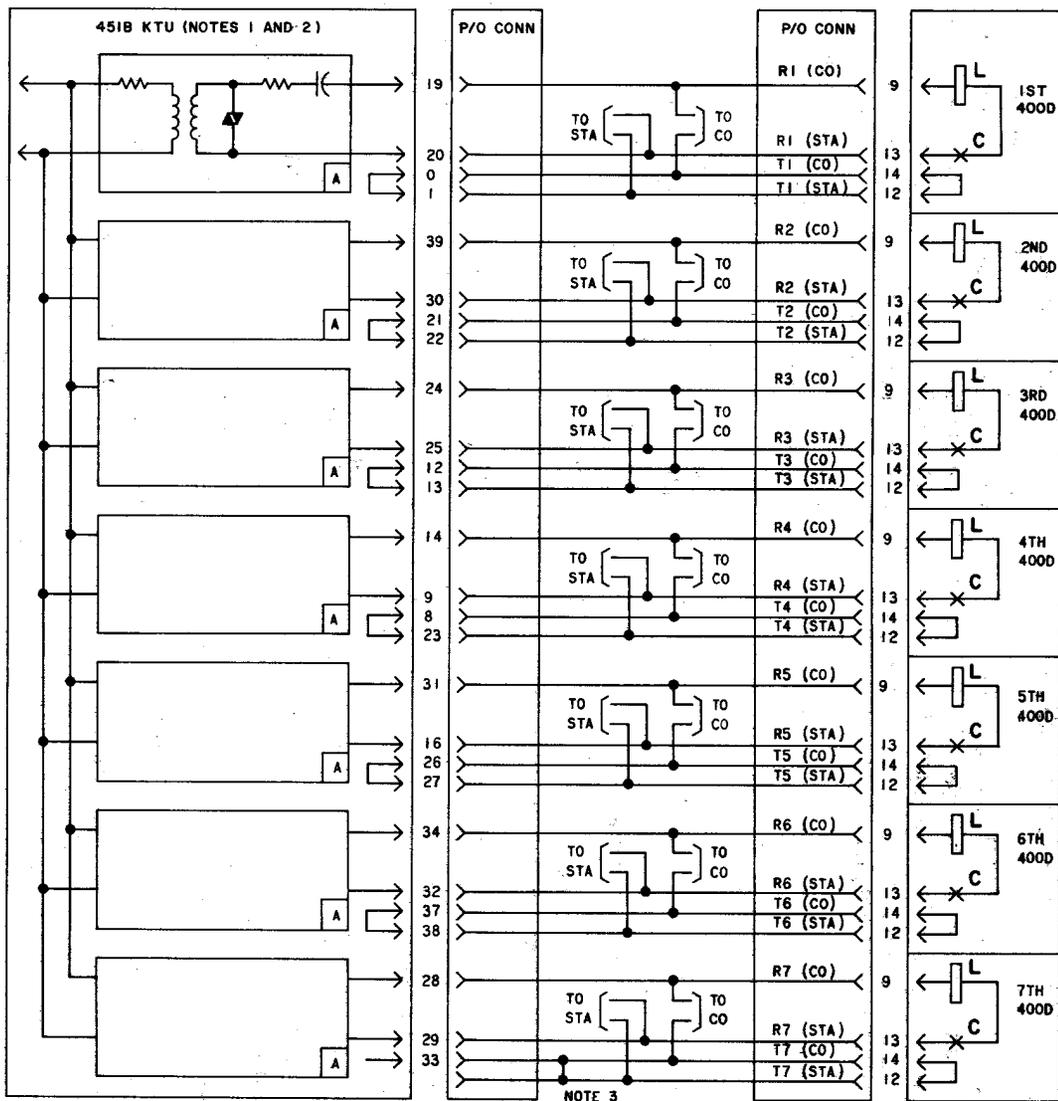

Fig. 10—Condensed Functional Schematic of 451B KTU (Music-On-Hold)
2.12 The 451B KTU (Fig. 10) is a 4-inch, 40-contact unit that provides music-on-hold to CO/PBX line circuits.